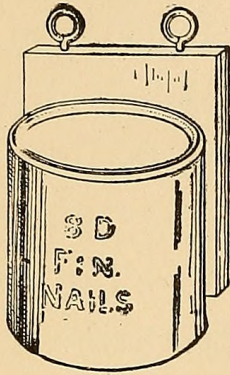
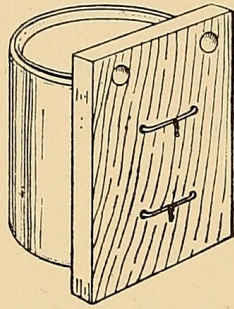
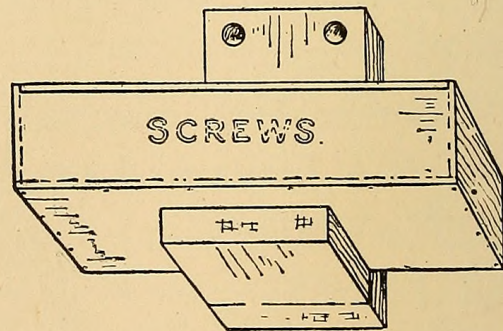

FIG. 50.
FIG. 51.
FIG. 52.— Cigar-box Receptacles for Screws, Bolts, or Miscellaneous Hardware.
**Receptacles for Nails, Screws, and Brads.** There is a can with a removable lid in which molasses and sirup comes (Fig. 50) that is very handy, and baking-powder cans and even tomato cans, if the solder around the rim of their opened end is melted and the end pulled off,
FIGS. 50 and 51.— Can Receptacles for Nails, Brads, and Screws.
provided with screw-eyes or holes (Figs. 50 and 51). To mount the cans, punch four holes through each and wire them to pieces of board as shown in Fig. 51. Cigar boxes may be fastened upon wooden brackets as shown in Fig. 52.